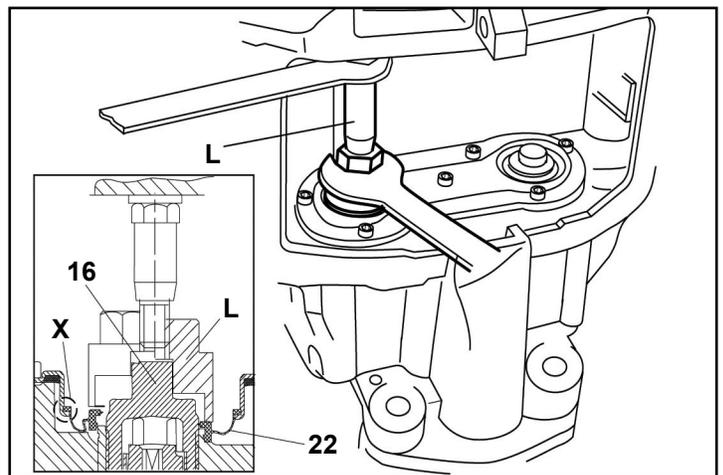

FIGURE 11 - OFF-VEHICLE INNER SEAL INSTALLATION
For installations where the caliper has been removed from the axle: Remove the tappet bushing. Position the L (T4 + T3 + T9, part number Z004361) with the long spacer (T4) in position as shown in Figure 11. Guide the tool over the end of the threaded tube (16). Fully press the inner seal (22) into position by rotating the adjuster nut using an open-ended wrench.